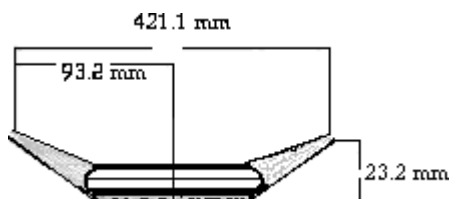

Figure 1-30 Front of Cradle
- Note: The white edges on the cradle may not always parallel and a second measurement is needed. See Figure 1-30.